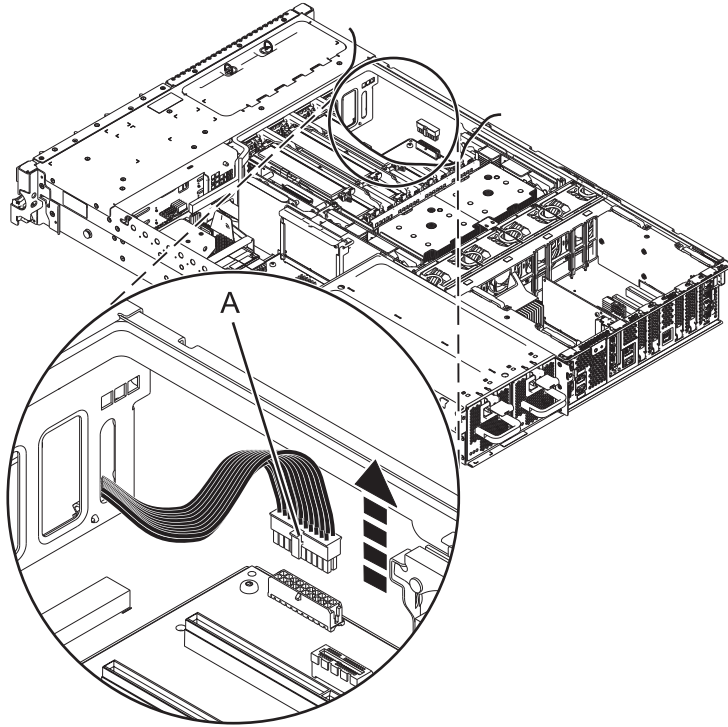

Figure 8. Removing the front fan cable
23. Remove the front fan cable. See Figure 8 on page 12.